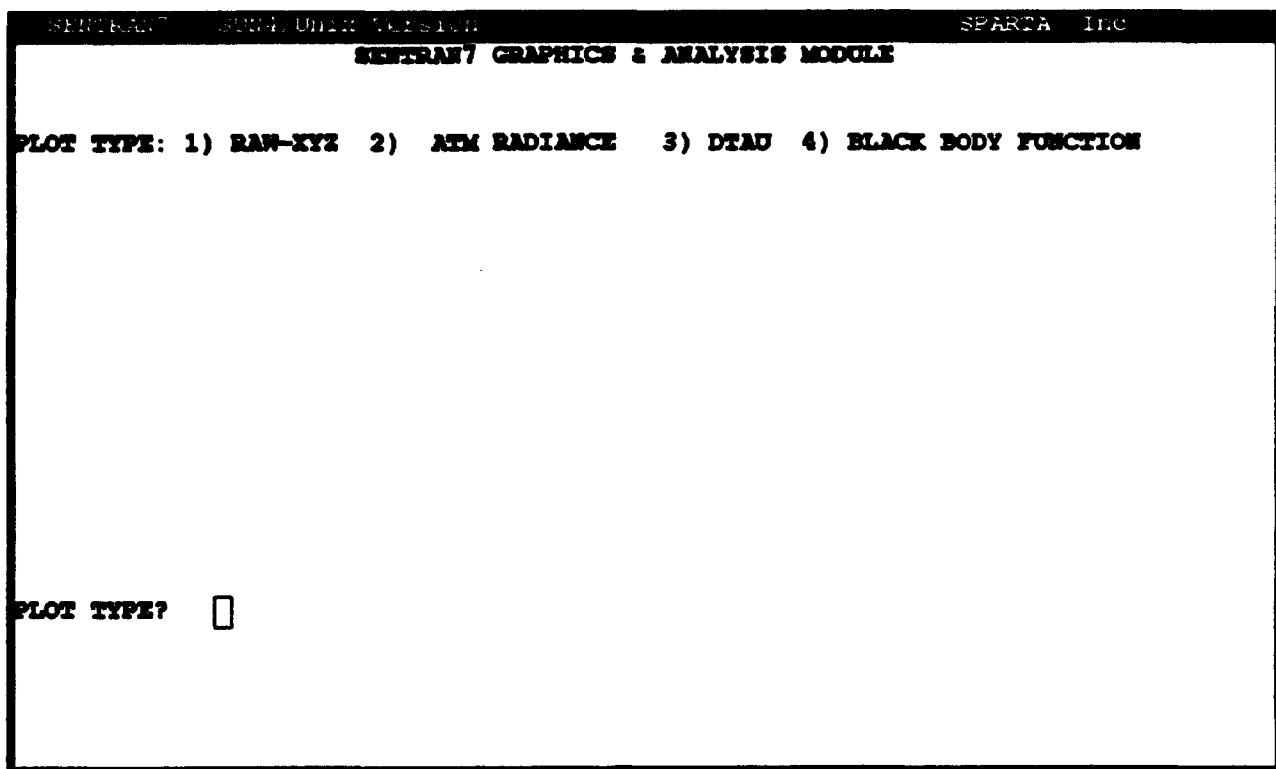

Figure 77. Example of the Initial Screen for the SENTRAN7 Graph and Analyze Features for Tutorial #2
- 23) Enter the G&A Module by entering '7' or 'graph' at the Main Menu. The initial screen and types of plots available for this case are shown in Figure 77.